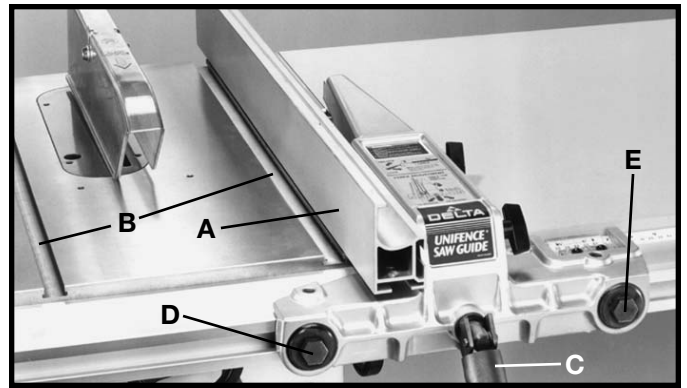

Fig. 50
The fence (A) Fig. 50, should be adjusted so it is parallel to miter gage slots (B). To check and adjust, move the fence (A) until the bottom front edge of the fence is in line with the edge of the miter gage slot as shown, and push down on fence clamping lever (C). Check to see if the fence is parallel to the miter gage slot the entire length of the table. If the rear of the fence must be moved, slightly tighten or loosen one of the adjustment plugs (D) or (E) Fig. 50, using the arbor wrench or a 7/8" wrench, until the fence is parallel with the miter gage slot. **IMPORTANT: DO NOT OVER-TIGHTEN PLUGS (D) AND (E) FIG. 50. VERY LITTLE MOVEMENT OF THESE PLUGS IS NECESSARY WHEN ADJUSTING THE FENCE PARALLEL WITH THE MITER GAGE SLOT.**